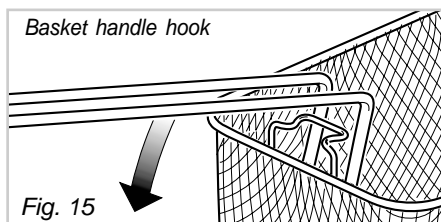
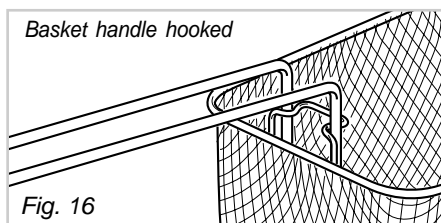

Fig. 15
Fig. 16
- Move the basket handle outwards (fig. 15) and hook it (fig 16).